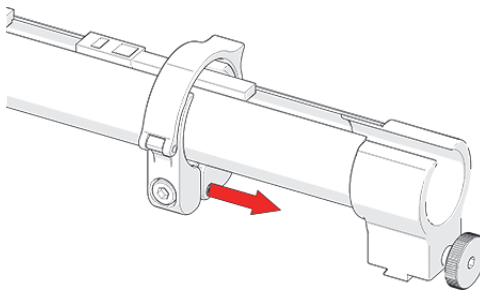

Figure 3-57 Slide clamp onto mount
4. Slide the clamp over the tube and zipper tube dovetail mount, pinching the tube in between (see Figure 3-57 on page 71).